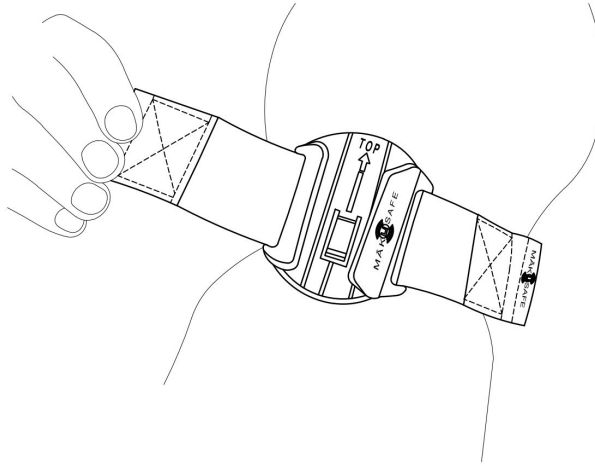

Figure 5
3. Tighten the armband so it rests securely and comfortably on your upper arm. Do not overtighten the armband. (Figure 5)